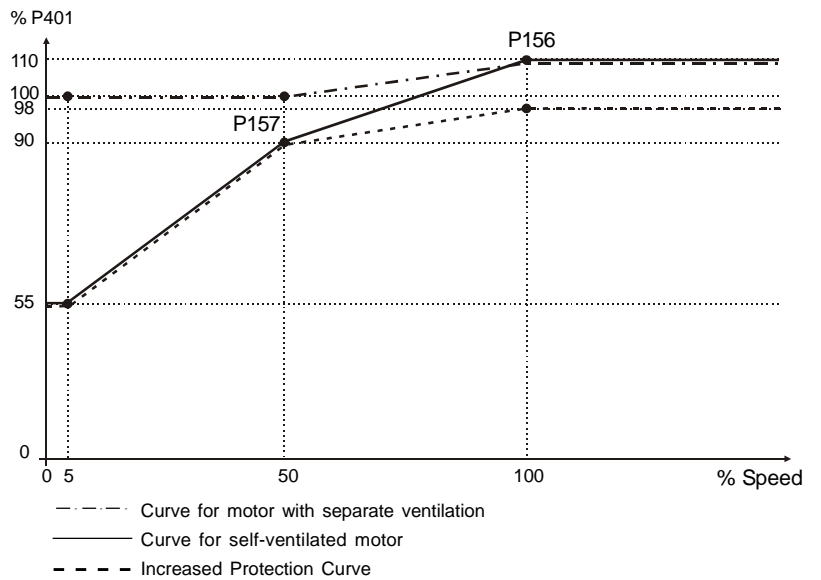

Figure 6.18 - Overload protection levels
- The overload current is given as a function of the motor speed. The parameters P156, P157 and P158 are the three points used to form the overload curve, as shown in figure 6.18 with the factory default levels.